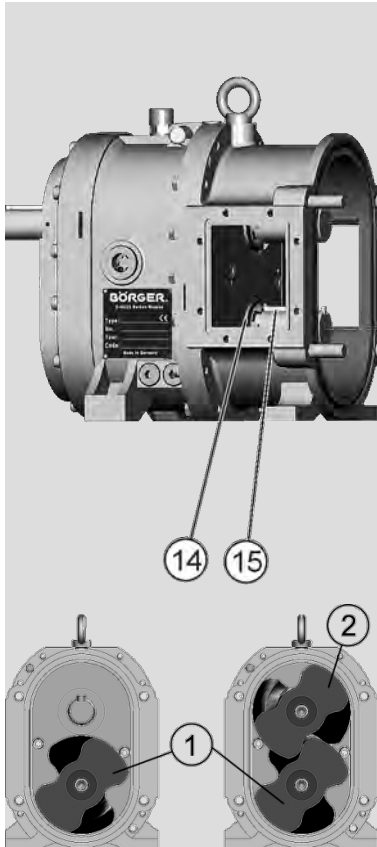

Figure 6.3.3-2
- Rotate the shafts so that the parallel keys (15) are at 12 o'clock.
- Insert the rotor with counter-clockwise screw profile at the bottom (1 in figure 6.3.3-2).
- Make sure that the upper parallel key (15) is still at 12 o'clock and has not been moved.